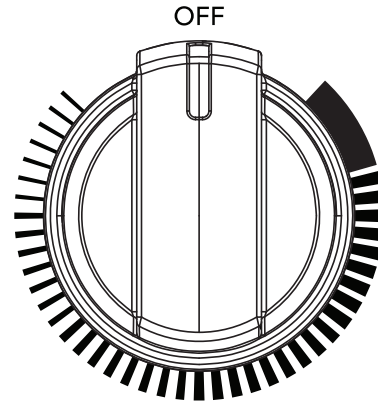

Figure 9: Control Knob
2. Push in and turn the surface control knob in either direction (Figure 9) to the desired setting (refer to the “Suggested radiant surface element settings” in Table 1).
Start most cooking operations on a higher setting and then turn to a lower setting to finish cooking. The surface control knobs do not have to be set exactly on a particular spot. Use the graphics provided as a guide and adjust the control knob as needed (see Figure 9).